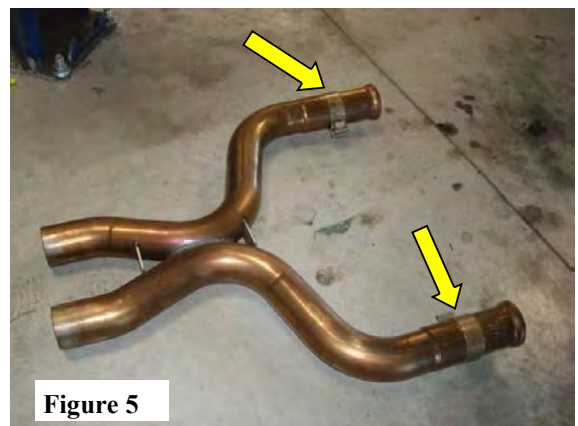

Figure 5
1. Place (2) Accuseal Clamps over each end of X-pipe. Insert (2) Flared Nipple into X-Pipe. Lightly tighten clamps. (See Fig. 5)